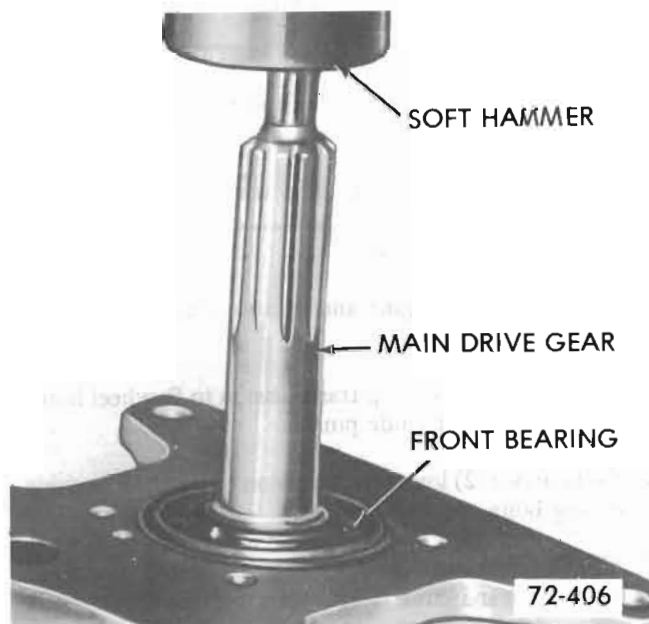

Figure 72-43 - Removing Main Drive Gear
13. With soft hammer, tap main drive gear down from front bearing as shown in Figure 72-43.